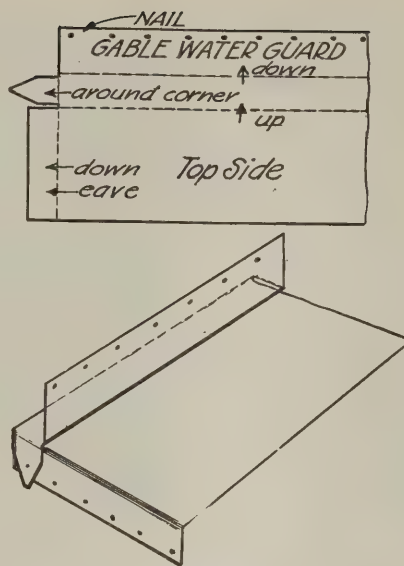

Fig. 5—Gable water guard, pattern and folded
L. S. B., of Peoria, Illinois, who contributed generously in former times, returns with a couple of kinks which he authorizes as an old timer. The first is shown in Fig. 3 which is on a preceding page, due to the fact that we play a sort of hide-and-seek game with the advertising pages and like eating hot biscuit and molasses, it's hard to make the durned thing come out even. Fig. 5 shows the pattern and the fold for a gable end protector. The letter follows: "Occasionally annoyance is created by rain water running over the gable of a house and especially the gable end of a flat seamed tin roof covering a veranda having no end gutter. The water frequently creeps over the cornice moulding of such a veranda,
streaking and discoloring it. The contractor should insist that the roofer form a neat guard from the material used for the roof. On an ordinary roof the raised height may be 1 inch. The guard is made by cutting tin strips 10 inches wide the length of the gable. This strip is laid near the gable, soldered side up, with seams pointing to the eave. The folds allow sufficient metal as shown in the lower sketch, Fig. 5.